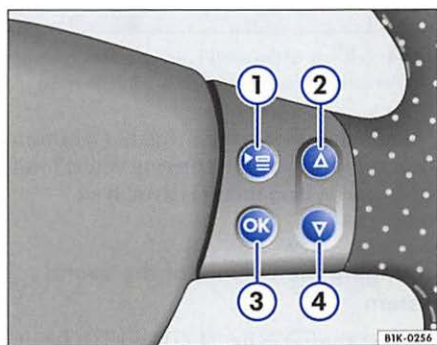

Fig. 12 Multifunction steering wheel: right side
- Press the  ⇒ page 17, fig. 12 ① button on the multi-function steering wheel until the **Sound system** menu is displayed ⇒ fig. 13.